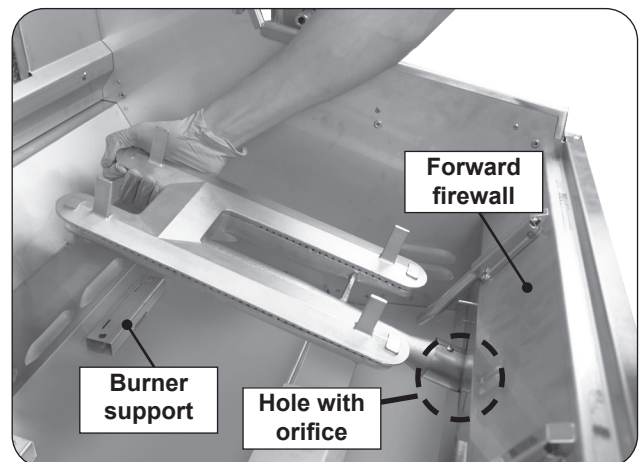

Fig. 39-2 Remove burners
3. Carefully lift the burner from the burner support and out from the hole in the forward fire wall. See Fig. 39-2.